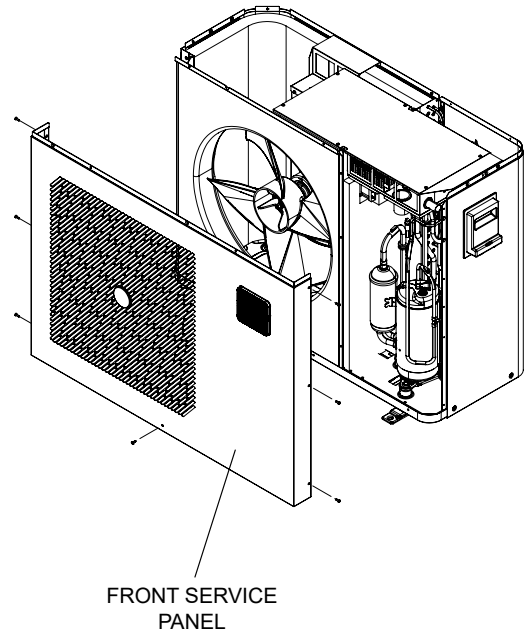

Figure 68. Front Service Panel Removal
2. Remove the heater's top cover by unscrewing the eight (8) screws using a Phillips-head screwdriver.
3. Remove the side service panel by unscrewing the seven (7) screws using a Phillips-head screwdriver. See **Figure 68**.